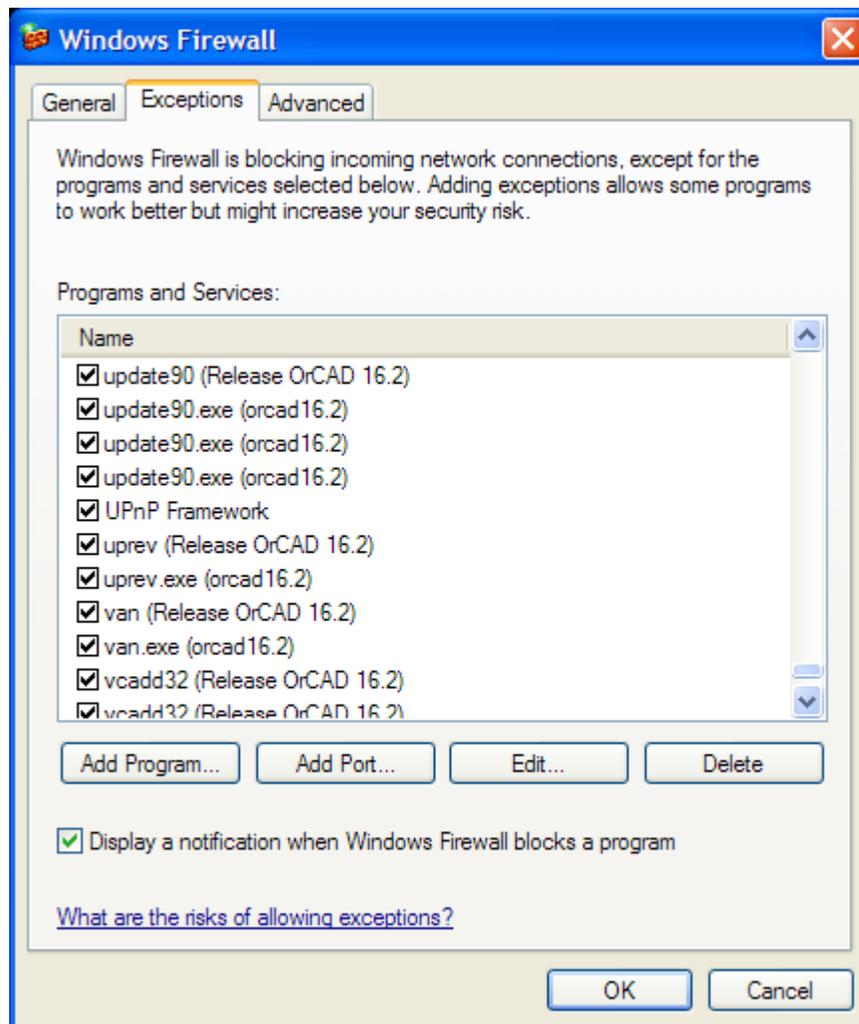

Figure 25 - Windows Firewall
- » In the example shown in Figure 25, go to **Start > My Network Places**.